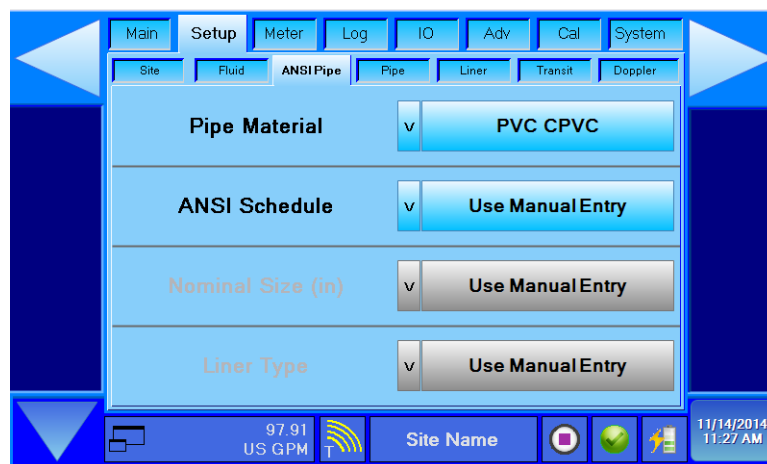

Figure 56: Setup > Pipe US — schedule manual entry selected
1. Make sure *Setup > ANSI Pipe > ANSI Schedule* is set to “Use Manual Entry” as in Figure 56.